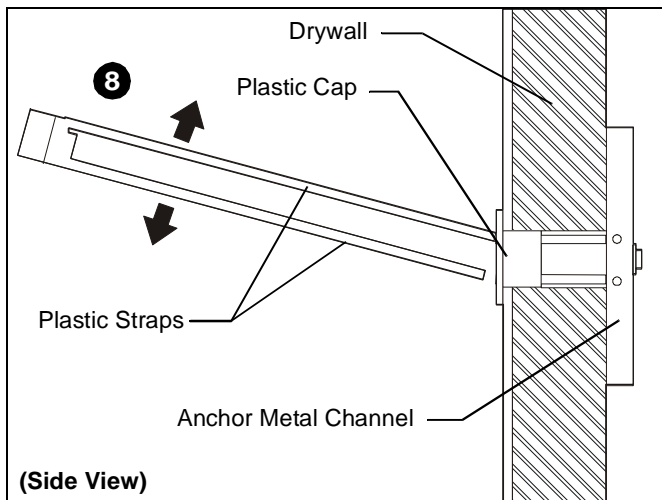

Figure 16
8. Snap off plastic straps on anchor at wall by pushing side to side, snapping off straps level with flange of plastic cap. (See Figure 16)